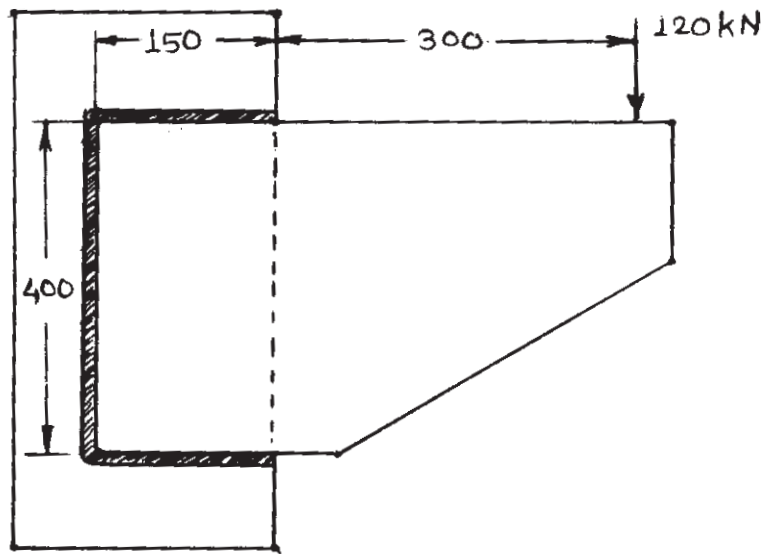

Fig. 2
- b)** A bracket plate carrying a load of 120 kN is to be welded to a column as shown in Fig.2. Find the size of the weld, if the allowable shear stress in the weld is 110 MPa. [10]